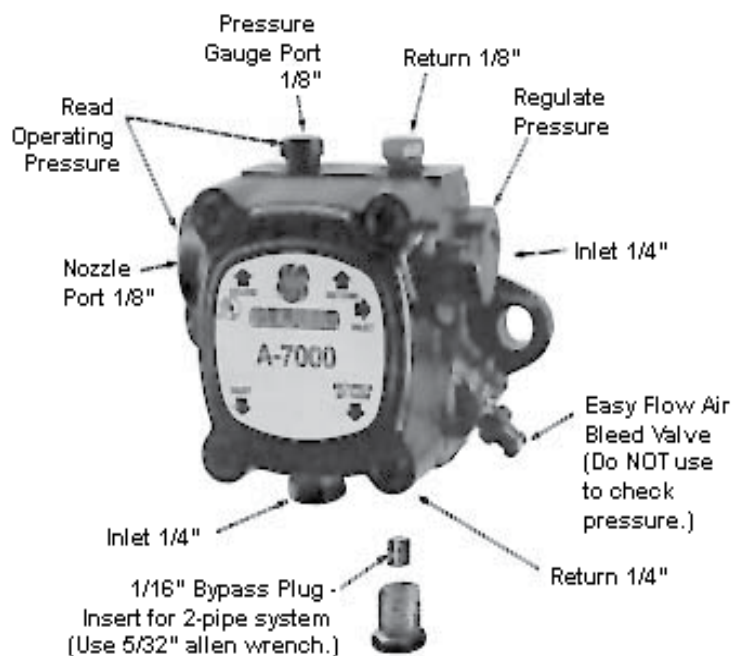

Figure 15. Burner Pump
- See Figure 15 for port, bleed, inlet, regulator, and bypass plug locations.
- c. Connect one end of rubber tubing to air bleed valve on burner pump (see **Figure 15**) and place other end into open container (no smaller than 1 pint).
- Install pressure gauge (125-psig minimum) into pressure gauge port on burner pump (see Figure 15).
- Connect gauge to the gauge port or the nozzle port (see Figure 15) to check burner pump pressure.